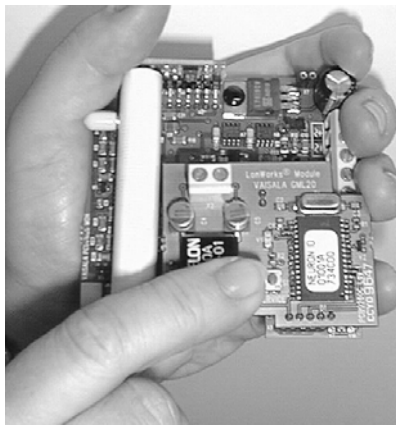

Figure 2: Installing the GML20 module
3. Install the module on the 2- and 5-pin connectors as indicated in Figure 2.